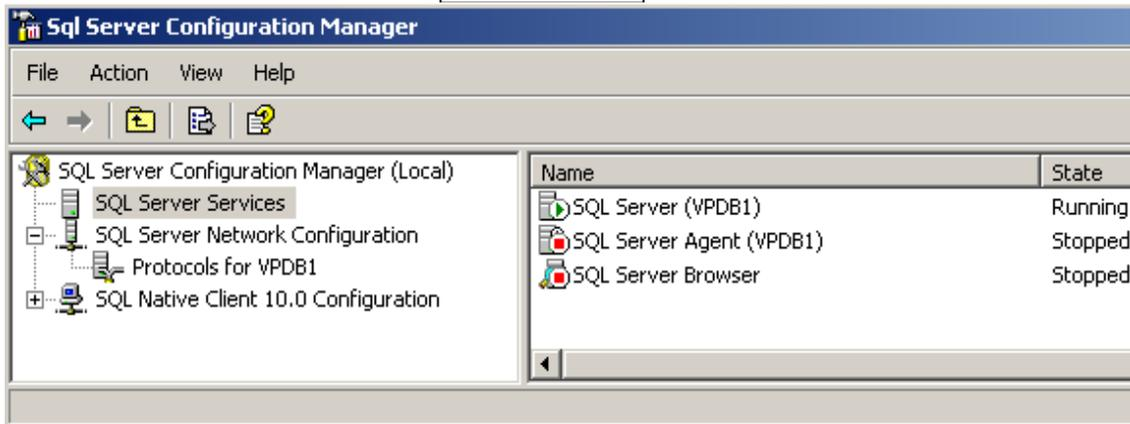

Figure 37
- o Click on **SQL Server Services** in the left column (**Figure 37**).